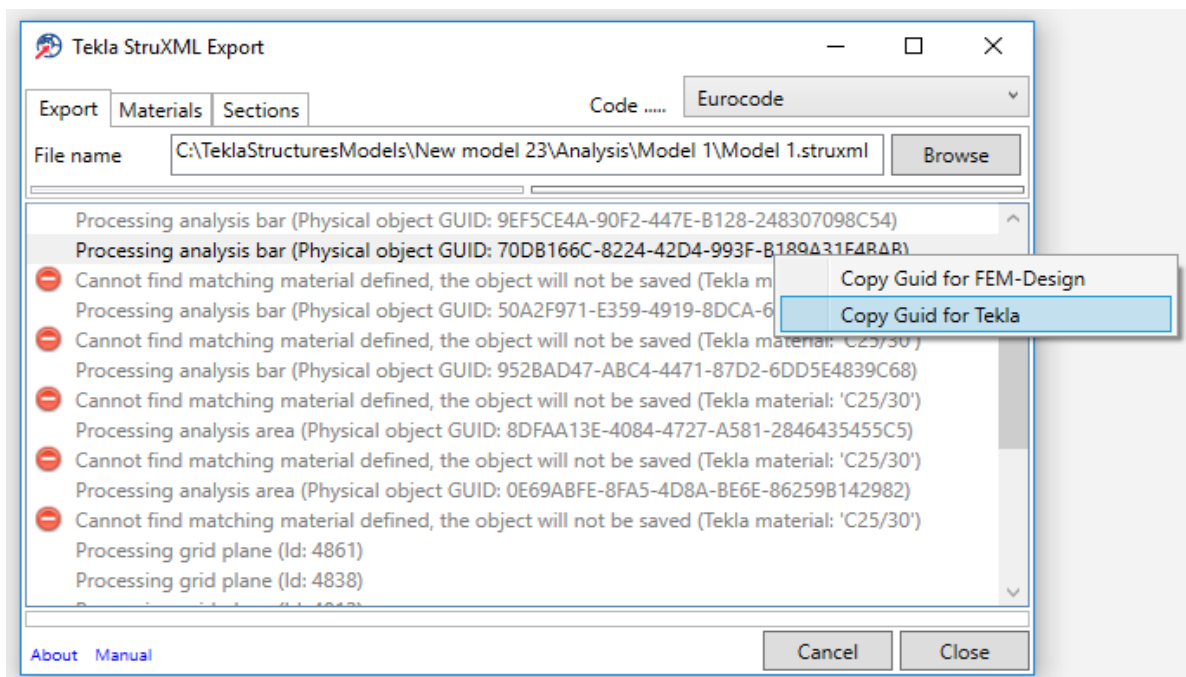

Figure 3-29
There are a few objects that have not been exported due to lack of valid material definition. One can see the error messages (**always displayed under the processed object**) in Figure 3-29.
- g. In Tekla StruXML Tool right click on the log entry that refers to the object you want to search for, and press Copy GUID for FEM-Design (Figure 3-29).